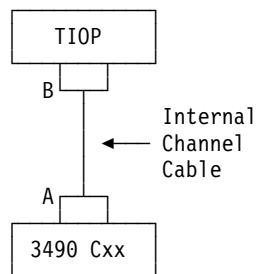

Figure 20. Tape Subsystem Cable Connections
The tape subsystem cables are connected as shown in Figure 20.
- a. Disconnect the internal channel cable from the I/O device control unit (at **A** in Figure 20).
- b. Disconnect the internal channel cable from the TIOP card (at **B** in Figure 20 on page 492).
- c. Connect channel wrap block 2 to the TIOP card (at **B** in Figure 20 on page 492).
- c. Reconnect the internal channel cable to the TIOP card (at **B** in Figure 20 on page 492).
- d. Reconnect the internal channel cable to the I/O device control unit (at **A** in Figure 20 on page 492).